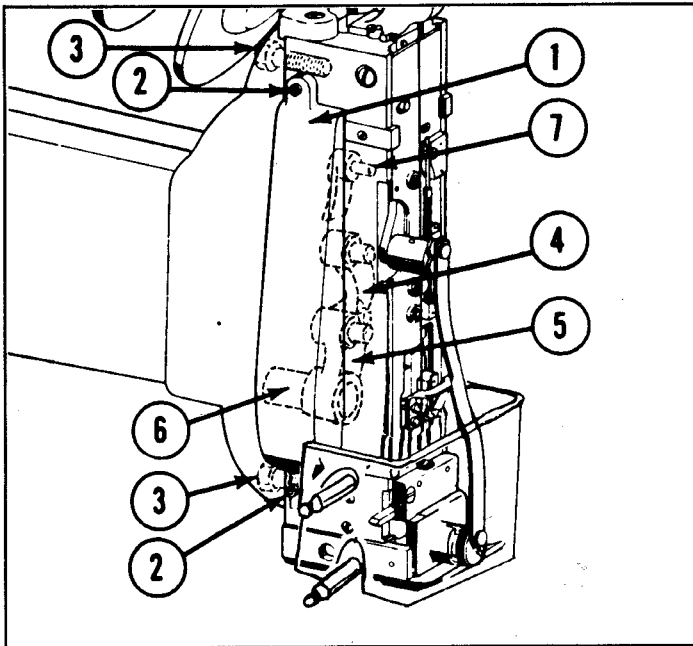

FIGURE 1
1) REMOVING HEAD: (See Figure 1)
- c) Remove the guards (1) and the upper and lower screws (2).
- d) Remove the bonnet screws (3).
- e) Pull the head off the machine and at the same time remove the driver link (4) and the bender link (5).
2) ATTACHING HEAD: (See Figure 1)
- a) Attach the links (4 and 5) to the driving slide block and the bender slide, put the crank pin (6) into the bender link (5), and put the adjusting link pin (7) into the hole in the face plate adjusting slide.
- b) Hold the head just far enough away from the frame to see the holes in which to insert the bonnet screws (3); then tighten the screws. Replace the guard.